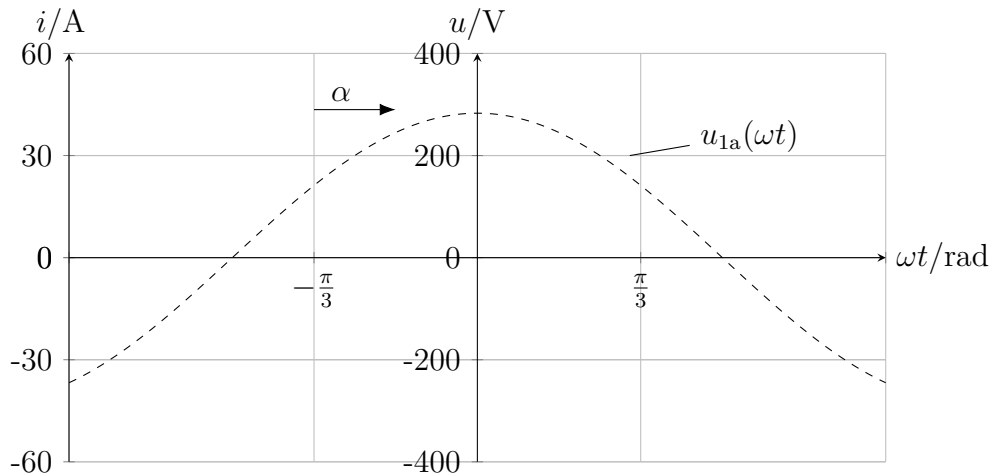

Fig. 6: Input current $i_{1a}(\omega t)$ and $u_{1a}(\omega t)$.
3.4 Sketch the input current $i_{1a}(\omega t)$ in Fig. 6, calculate the effective value of the fundamental component $I_{1a}^{(1)}$ and the corresponding total harmonic distortion (THD). [4 Points]